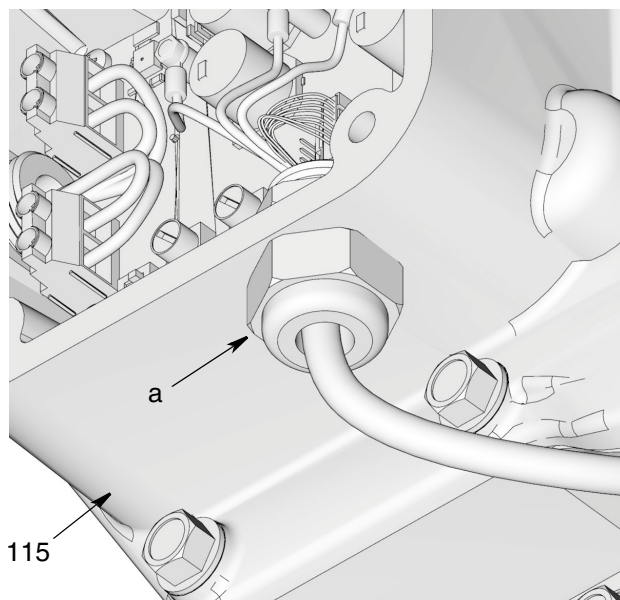

FIG. 55
8. Use a wrench to loosen strain relief (a) and remove wiring harness from housing (FIG. 55).